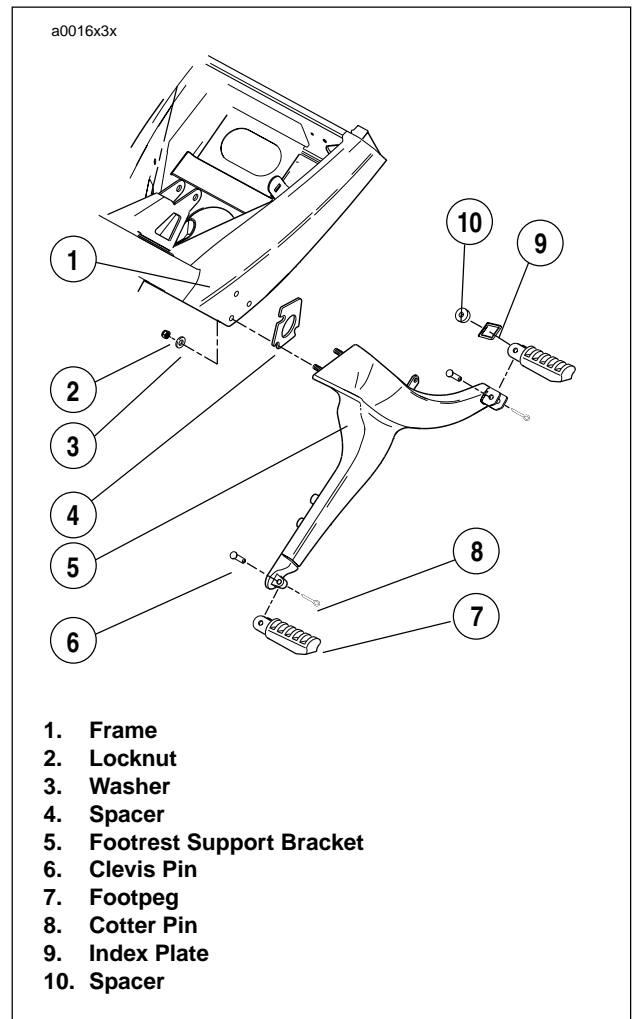

Figure 3-33. Footpeg Bracket Assembly
36. See Figure 3-33. Install right side rider footpeg bracket assembly. See 2.22 FOOTPEGS AND FOOTPEG SUPPORT BRACKETS.